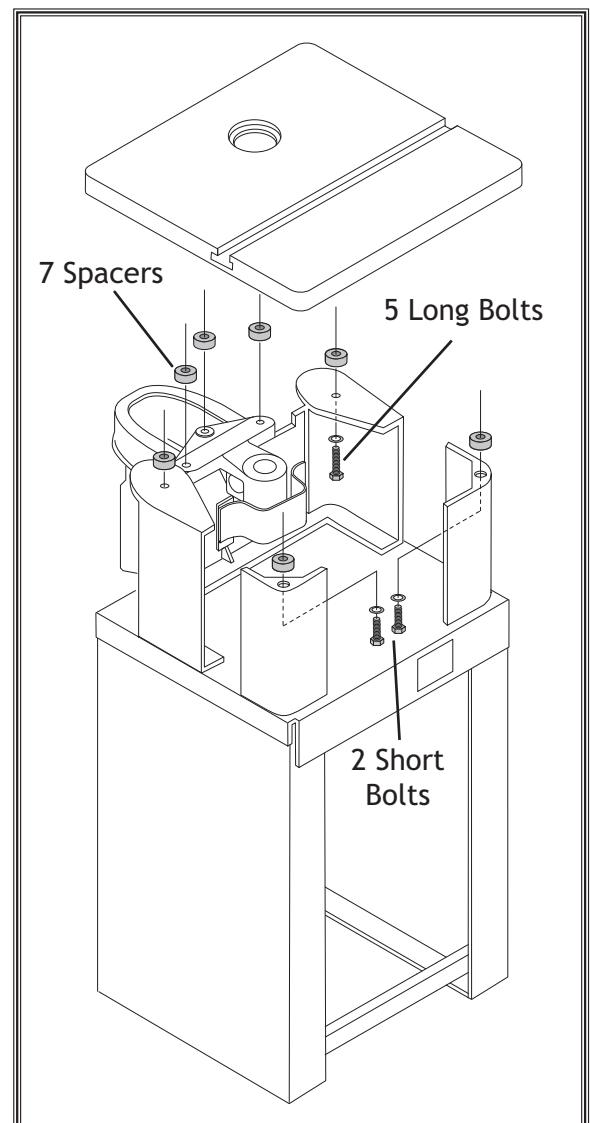

Figure 44. Installing table spacers.
8. Place the table on the spacers and secure it to the shaper with the hex bolts from the router table spacer kit (see **Figure 44**).